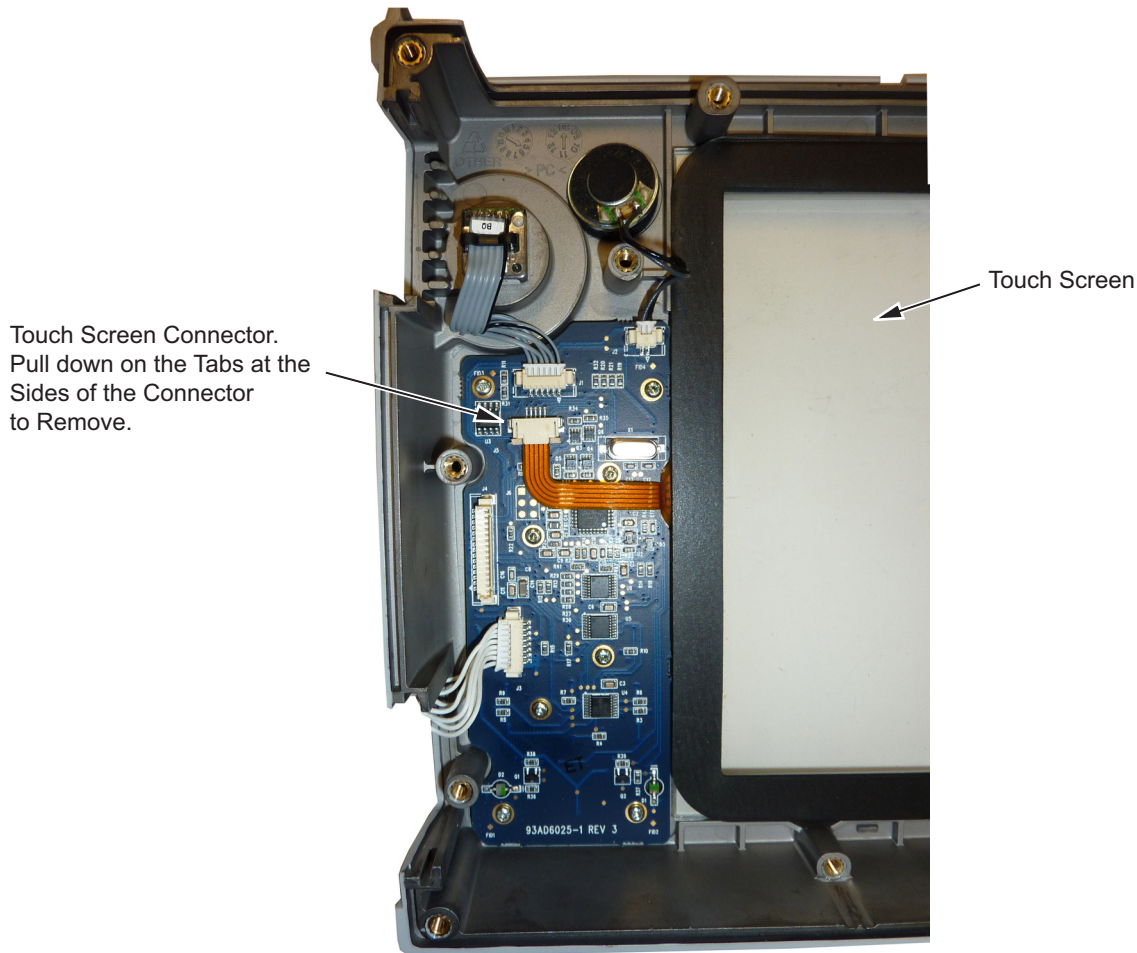

Figure 7-15. Replacing the Touch Screen
4. Remove the touch screen flex circuit connector from the Keypad PCB by pulling the tabs on each side of the connector away from the connector and in the direction of the flex circuit. Refer to Figure 7-15.